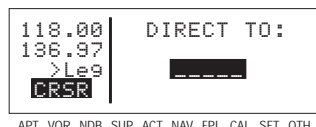

Figure 4-95
2. Press **[CLR]** to blank out the waypoint identifier field (figure 4-95).